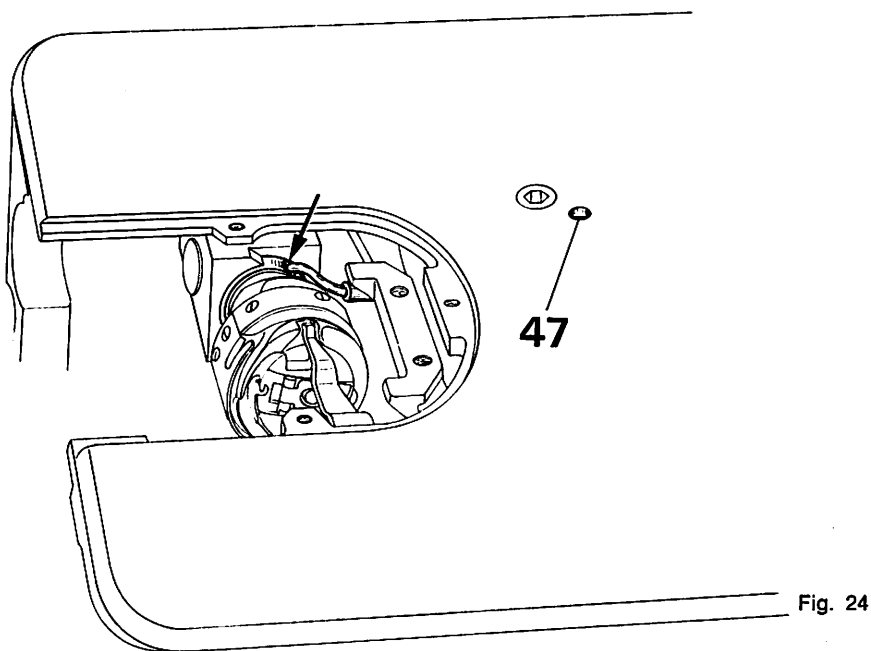

Fig. 24
22. Inserting the Oil Tube in the Oil Retainer Ring (Fig. 24)
22.2 Insert the small bent copper tube in the hole of the oil retainer ring (see arrow in Fig. 24).